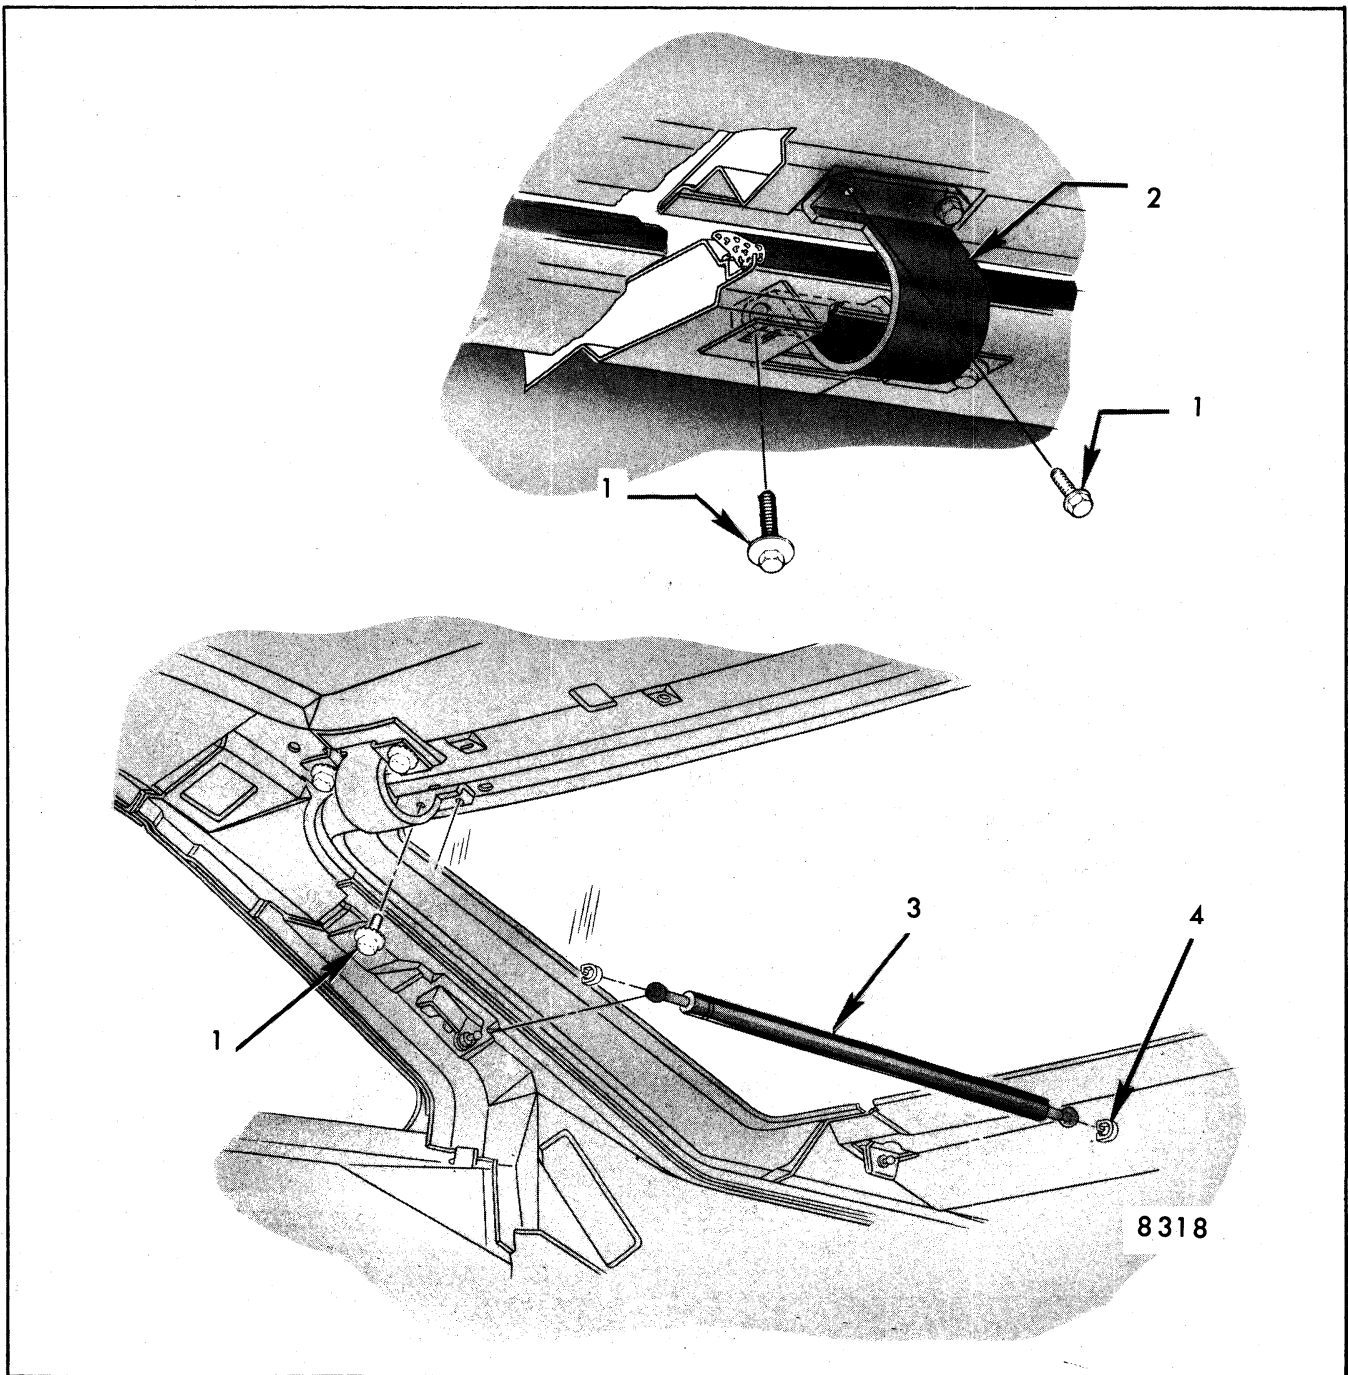

Fig. 7-10-Hatchback Lid and Gas-Operated Support Assembly Attachments
6. For "X-17" styles, mark location of hinge attachments on lid inner panel and remove two lid side attaching screws from each hinge (Fig. 7-10) and remove lid.